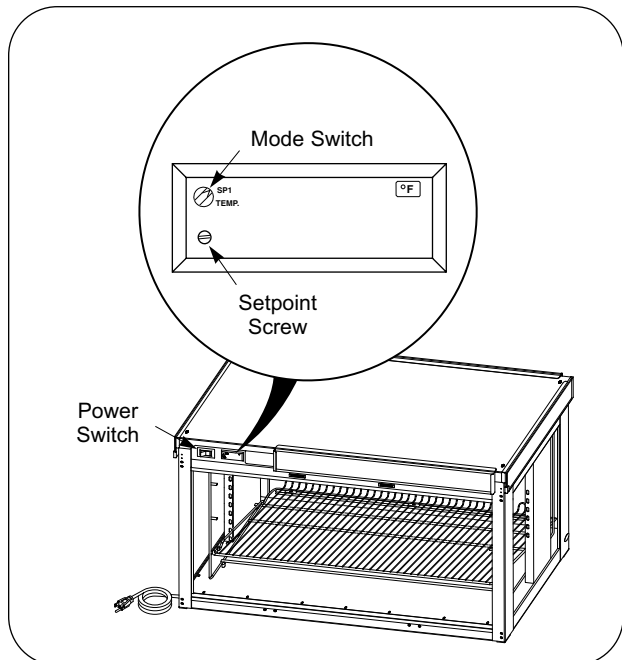

Figure 9. Control Panel
2. Turn the Power Switch on the control panel to the ON position. (See Figure 9).